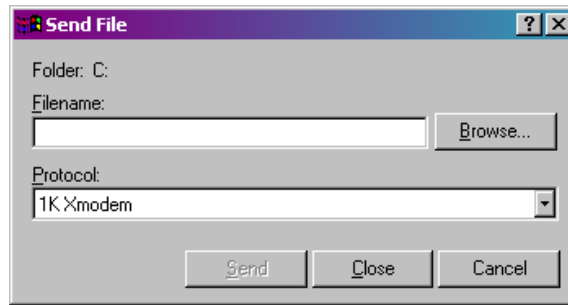
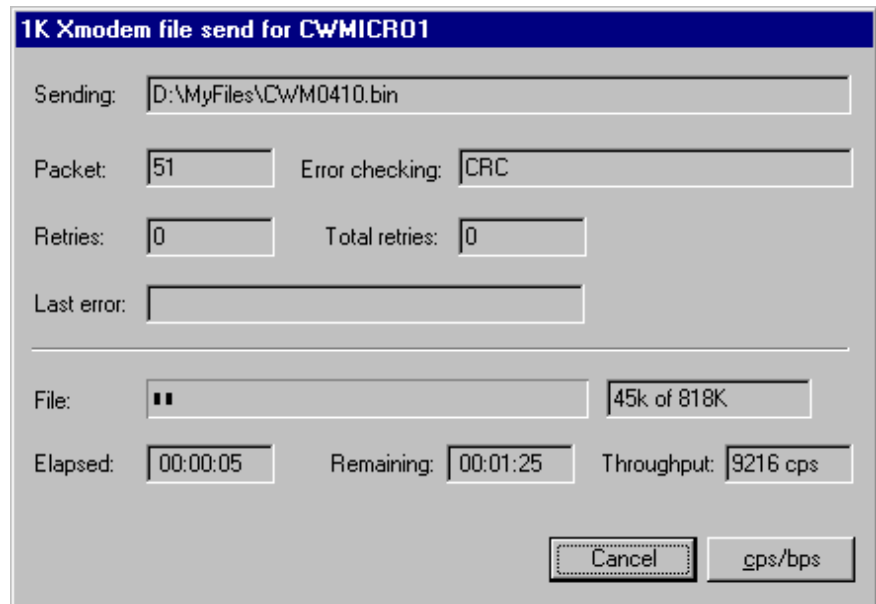

Figure 5-3. Send File dialog box
Figure 5-4. HyperTerminal (Download in Process)
8. In the Send File dialog box (see *Figure 5-3*), select **1KXmodem** for the protocol, enter the filename of the appropriate .bin file in the format “CWMxxxxx.bin” (where xxxxx varies from release to release) and click **Send** to start the flash upgrade (see *Figure 5-4*). When you see the HyperTerminal Mode Menu again, it means the download has completed.